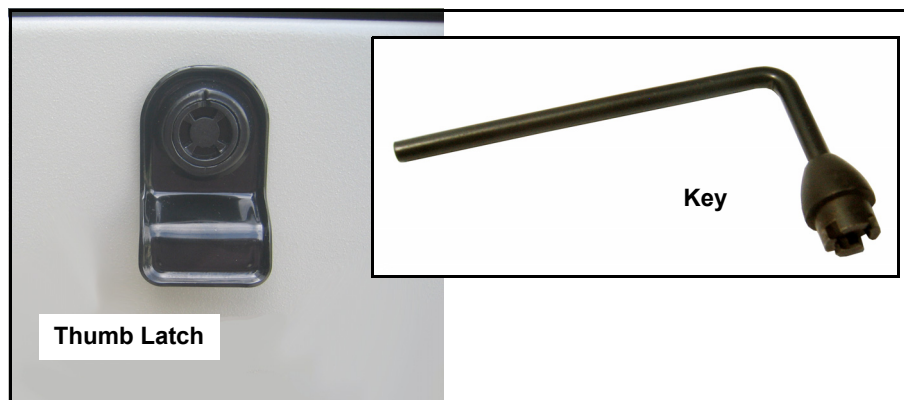

Figure 5-4. Access Panel Key
1. Insert key into latch and rotate counterclockwise 1/2 turn. See Figure 5-4.